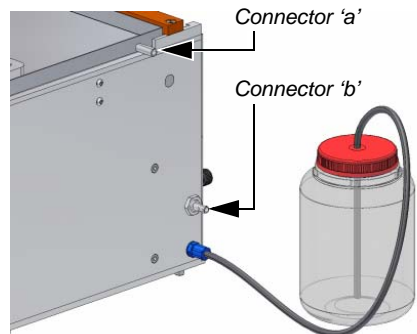

Figure 6. Liquid dosing bottle (connected to tester) and drain connectors 'a' and 'b'
- Connect one end of liquid delivery pipe to blue connector at side of tester and push other end of pipe to the bottom of the liquid dosing bottle (Figure 6).
- Referring to Figure 6, connect end of one liquid drain pipe to connector (a) on sample tray, and end of other liquid drain pipe to connector (b) on side of tester. Place other ends of both pipes into a container suitable for liquid waste.